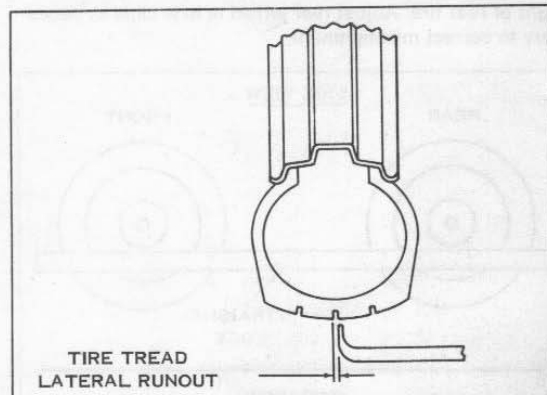

Figure 2-26. Checking Tire Lateral Runout
1. Check runout by turning wheel on axle, measuring amount of sideways displacement from a fixed point near the tire (see Figure 2-26).